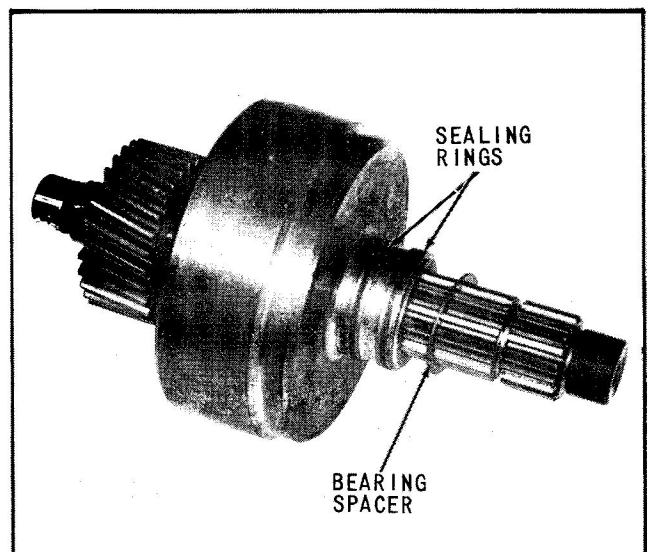

Fig. 39 Install Bearing Spacer
14. Install two cast iron sealing rings in grooves of clutch cylinder, (Fig. 39).
2. Install bearing spacer on output shaft behind clutch cylinder, (Fig. 39).